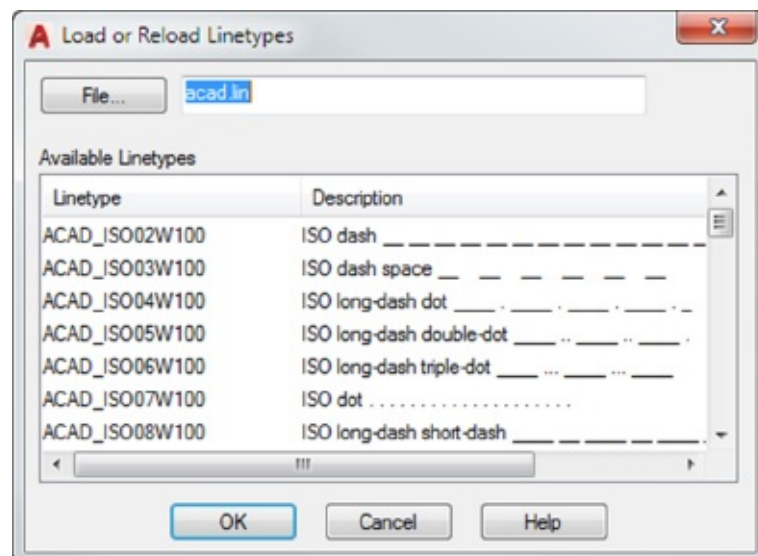

FIGURE 5.16 The Load Or Reload Linetypes dialog box
5. The Select Linetype dialog box offers a list of linetypes from which to choose. In a new file, such as the Bath file, only one linetype is available by default. You must load any additional linetypes you want to use. Click the Load button at the bottom of the dialog box to open the Load Or Reload Linetypes dialog box. Notice that the list of linetype names is similar to the layer drop-down list. You can sort the names alphabetically or by description by clicking the Linetype or Description heading at the top of the list (see Figure 5.16).